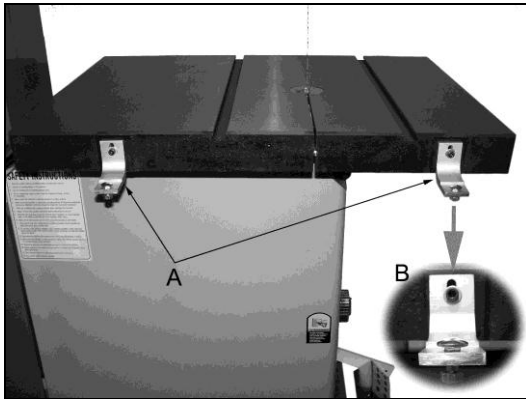

Figure 1
2. Install rail brackets (A, Figure 1) to the table as shown using the supplied hardware. See inset B and notice the elongated hole of the bracket mates with the edge of the table. *Do not fully tighten at this time.*